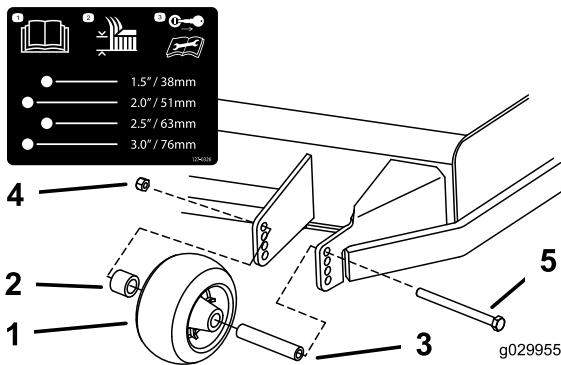
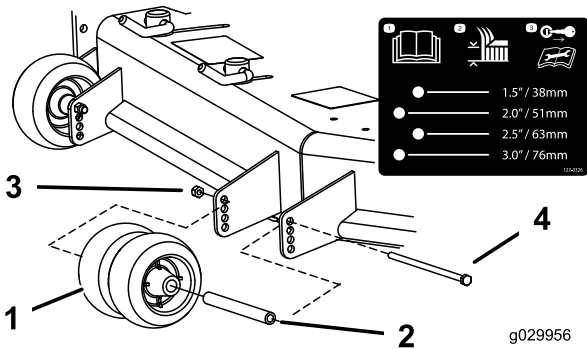
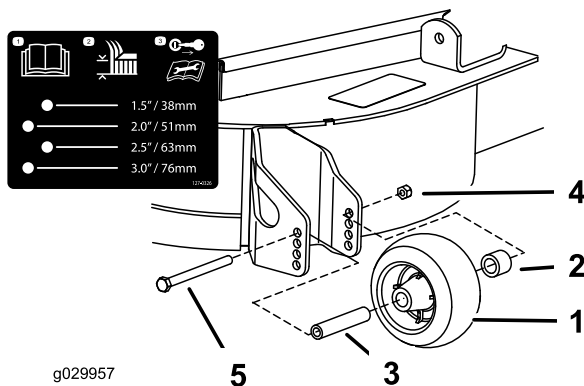

Figure 32
Figure 33
Figure 34
3. Adjust the anti-scalp rollers as shown in Figure 32, Figure 33, and Figure 34.